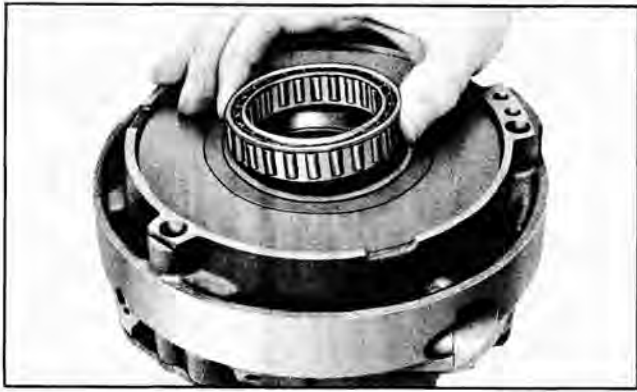

Fig. 116 Installing Front Sprag in Hub of Pump Body
15. Install sprag into rear of pump shoulder side up (Fig. 116). Rotate sprag counterclockwise while installing it.